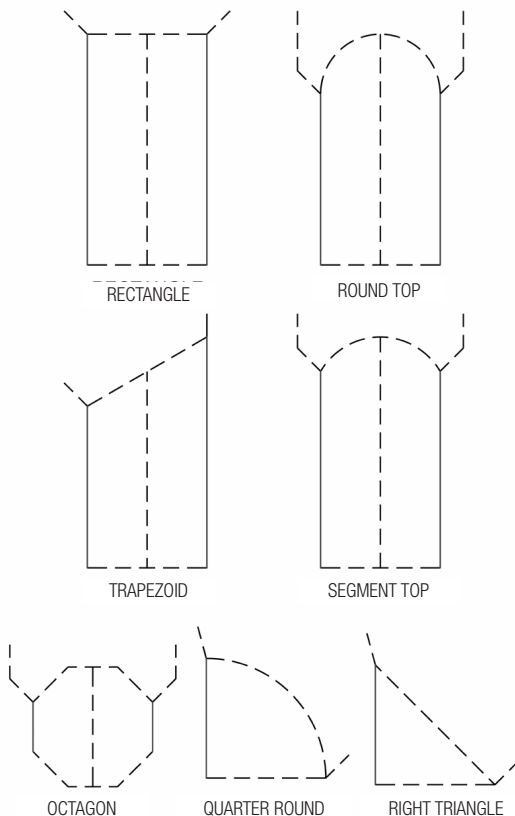

FIG. 5
- K) Optional cutting patterns for radius and geometric shapes are shown in Fig. 5 below.